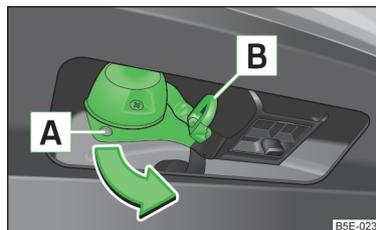

Fig. 161
- Grip the 13-pin socket at point **A** and swing out in the direction of arrow » Fig. 161.
- Unhook the breakaway cable of the trailer from the security lock slot **B** » Fig. 161.
- Grip the 13-pin socket at point **A** and swing in the opposite direction to the arrow » Fig. 161.